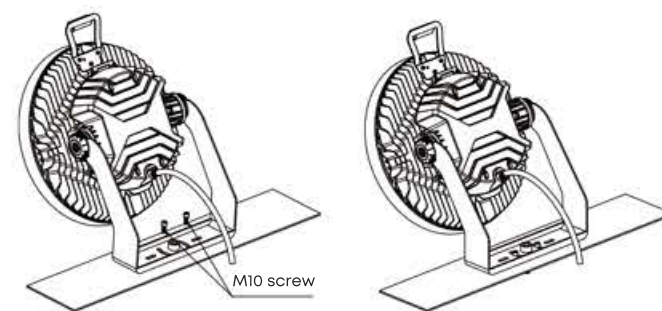

Figure-4 & 5
- 1) Fix two M10 screws with torque of 81 Nm on the arc-shaped holes on both sides of the fixture bracket respectively, as shown in figure-4 & 5.